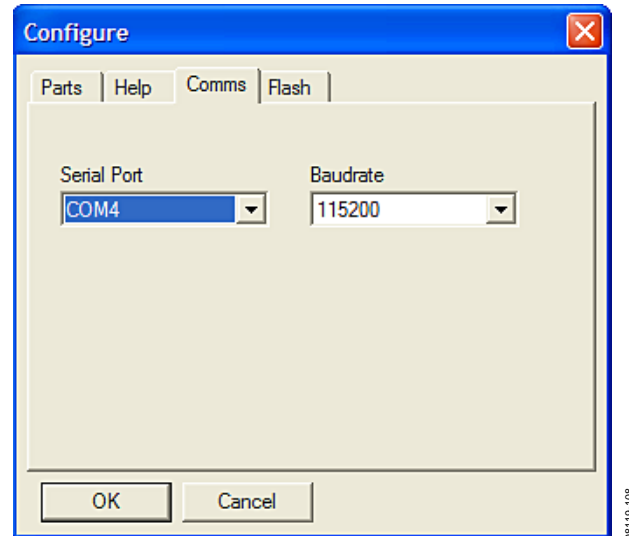

Figure 8. Selecting the Correct COM Port for the Downloader
4. Click **Configure** to display the screen shown in Figure 8.
The downloader file should come configured for the **ADuC7026** microcontroller on the ISEB. The only option that may need to be changed is to select the correct COM port from the **Serial Port** menu on the **Comms** tab (see Figure 8). When the COM port is selected, click **OK** to accept the changes and go back to the main screen.